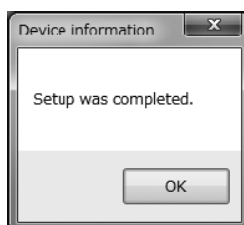

Fig.72
- ⑥ Click "OK" to change the settings to the inputted values, and then click the "OK" button in the displayed message box (Fig. 72) to complete the setting process.